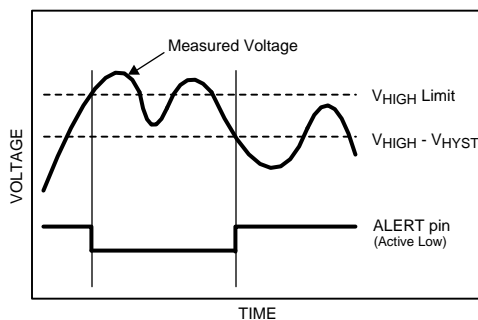

Figure 27. Alert condition cleared when measured voltage crosses $V_{HIGH} - V_{HYST}$
The ALERT function is an "out-of-range" indicator. At the end of every conversion, the measured voltage is compared to the values in the V_{HIGH} and V_{LOW} registers. If the measured voltage exceeds the value stored in V_{HIGH} or falls below the value stored in V_{LOW} , an alert condition occurs. The Alert condition is indicated in up to three places. First, the alert condition always causes either or both of the alert flags in the Alert Status register to go high. If the measured voltage exceeds the V_{HIGH} limit, the Over Range Alert Flag is set. If the measured voltage falls below the V_{LOW} limit, the Under Range Alert Flag is set. Second, if the Alert Flag Enable bit is set in the Configuration register, the alert condition also sets the MSB of the Conversion Result register. Third, if the Alert Pin Enable bit is set in the Configuration register, the ALERT output becomes active (see Figure 27). The ALERT output (ADC081S021 only) can be configured as an active high or active low output via the Polarity bit in the Configuration register. If the Polarity bit is cleared, the ALERT output is configured as active low. If the Polarity bit is set, the ALERT output is configured as active high.
2. The measured voltage goes below the programmed V_{HIGH} limit minus the programmed V_{HYST} value and the Alert Hold bit is cleared in the Configuration register. (see Figure 27). If the Alert Hold bit is set, the alert condition persists and only clears when a one is written to the Over Range Alert Flag bit.